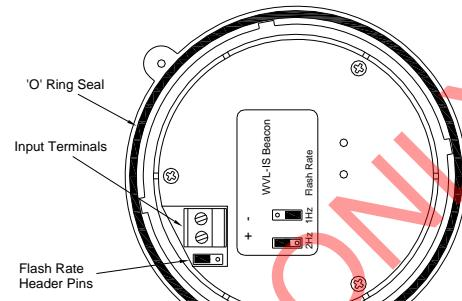

Fig 1 Location of field terminals and controls.
- c. Fit the required number of 20mm cable glands or conduit entries into the base and connect the field wiring to the appropriate beacon terminals as shown in section 6 and Fig 1 of this manual.
- d. Check that the 'O' ring seal is correctly located on the beacon section (see Fig. 1) and insert the beacon section into the base. Push it fully home and turn it clockwise to align the mouldings before tightening the security screw.
The flash rate is selected by the position of the pin header next to the input terminal block (see fig 1).